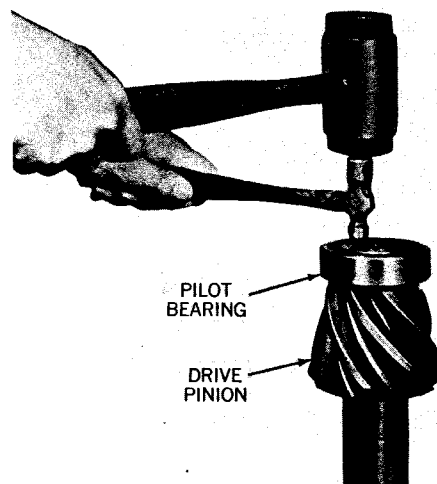

Fig. 106. Staking Pinion Pilot Bearing
1. Press pilot bearing on drive pinion. Stake in four places (see fig. 106).